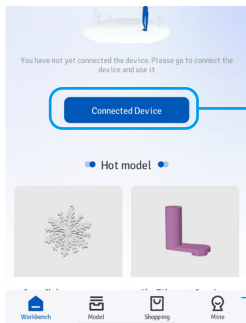

Figure 20
03. Tap “Connect My Device” in the app, as shown in Figure 20.